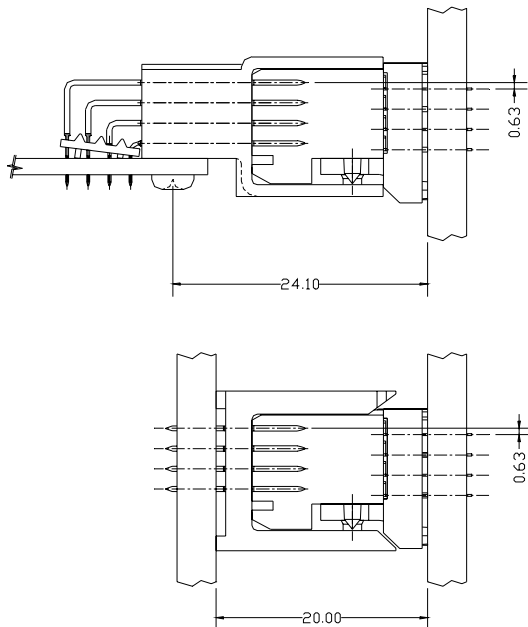

Figure 6: Nominal board-to-board offsets for vertical receptacles mated to r/a and vertical headers
- Refer to Fig. 6 for nominal board-to-board offsets for fully mated vertical receptacles.